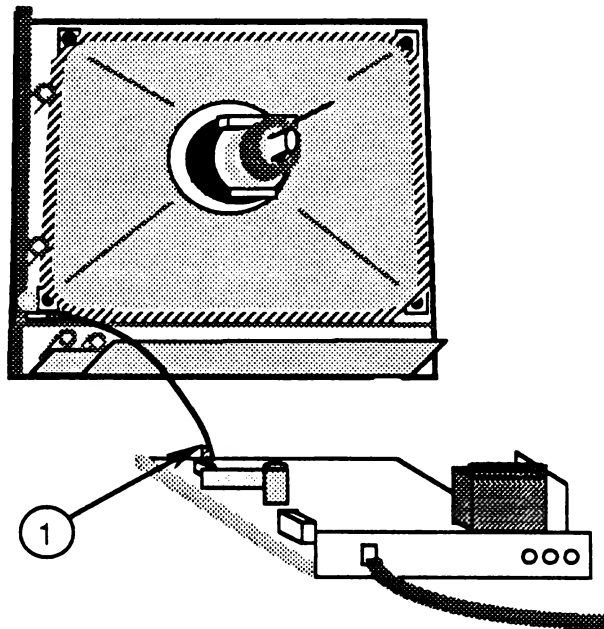

FIGURE 55
3. If the monitor is a ColorMonitor Iie, Rev. A, disconnect the LED cable from the small PCB that is attached to the main logic PCB (Figure 55, #1).
3. If the monitor is a ColorMonitor IIe, Rev. A, reconnect the LED cable to the small, vertically mounted video PCB attached to the main logic PCB (Figure 55, #1).